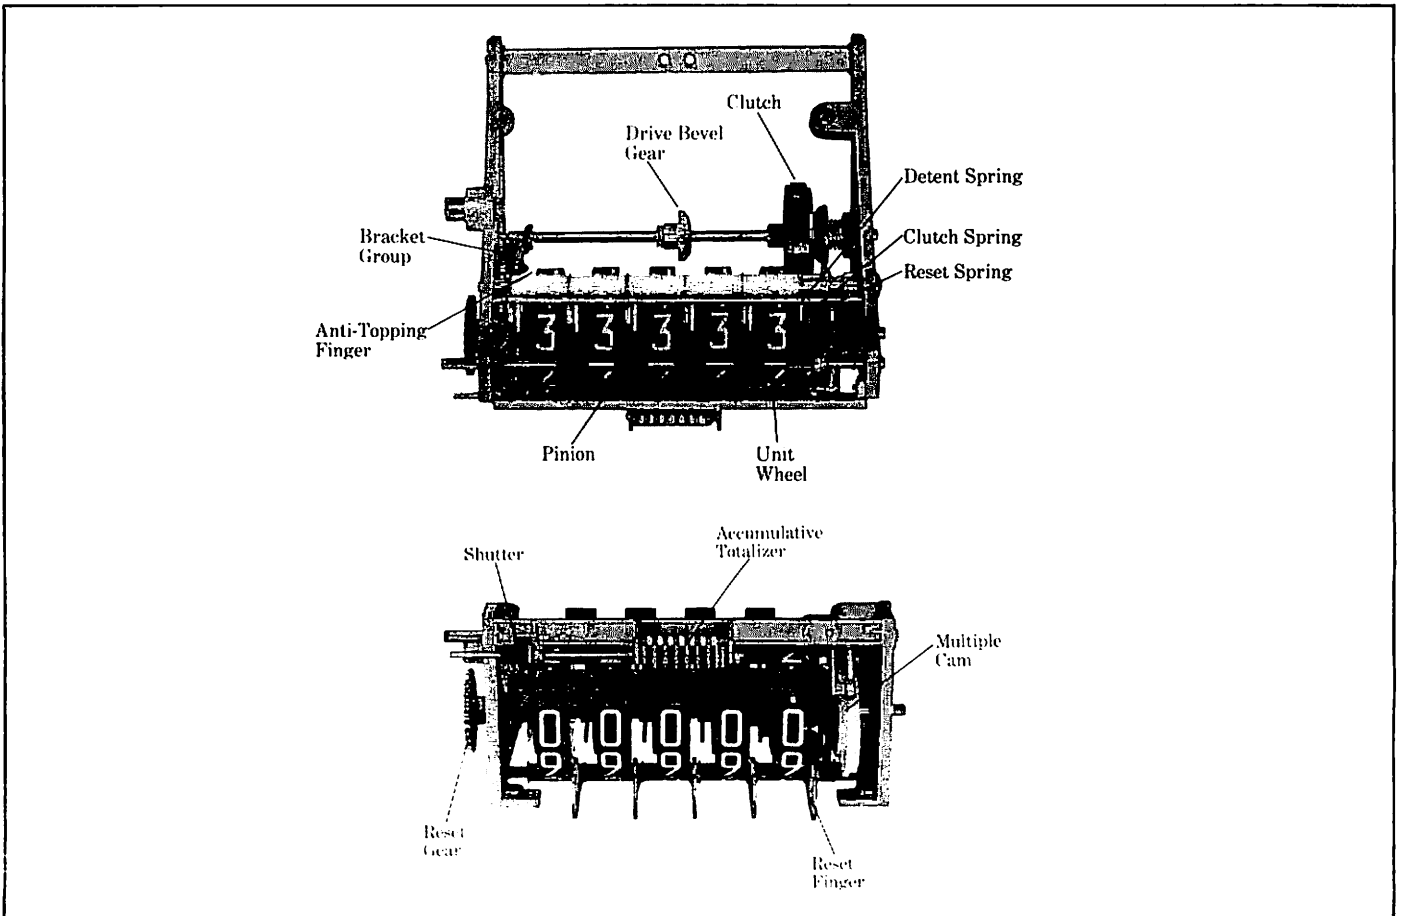

Figure 5. Internal View of Series 7887 Meter Register (Series 7886 High-Capacity Meter Register is similar).
2. Operational. The Meter Register is operated by a drive shaft connected to a group of gears on the gear plate which converts the drive revolutions to the appropriate ratio. The output bevel gear of the group drives a bevel gear, Figure 5, which is connected to the drive shaft and clutch assembly. In rotating, this shaft drives a gear on the
2. Operational. The Meter Register is operated by a drive shaft connected to a group of gears on the gear plate which converts the drive revolutions to the appropriate ratio. The output bevel gear of the group drives a bevel gear, Figure 5, which is connected to the drive shaft and clutch assembly. In rotating, this shaft drives a gear on the clutch assembly which in turn drives a gear on the right (unit) wheel assembly. Revolutions are then accumulated on the wheels. In addition, this rotating shaft also drives the bracket group connected to the accumulative totalizer shaft, thus both displays are driven from the same source, assuring accurate recording of information. During the reset operation, the clutch is disconnected from the drive shaft, a shutter moves into place covering the display wheels and reset fingers engage heart-shaped cams on the individual wheels to move them back to a zero position. In addition, a set of anti-topping fingers engages the wheels to prevent jamming. At the completion of reset, the display wheels will read all zeros, and the shutter will rise to the normal operating position. The clutch will engage the drive shaft to transfer the information from the next delivery. The totalizer wheels will be unaffected by this reset operation, thus displaying an accurate measure of the accumulated totals of many deliveries.